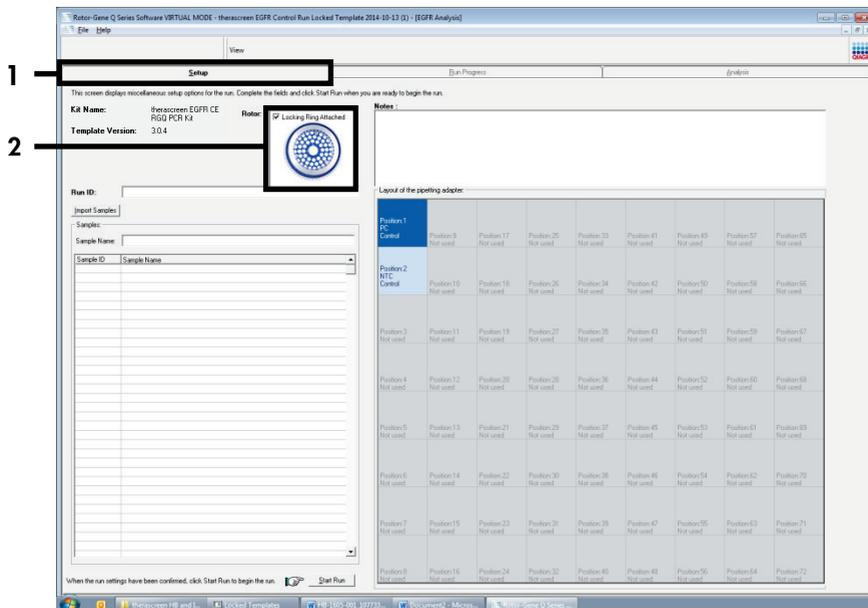

Figure 2. The “Setup” tab (1) and “Locking Ring Attached” box (2).
13. The “Setup” tab opens as the default (Figure 2). Ensure that the locking ring is properly attached, then check the **Locking Ring Attached** box. Close the lid of the Rotor-Gene Q MDx 5plex HRM instrument.